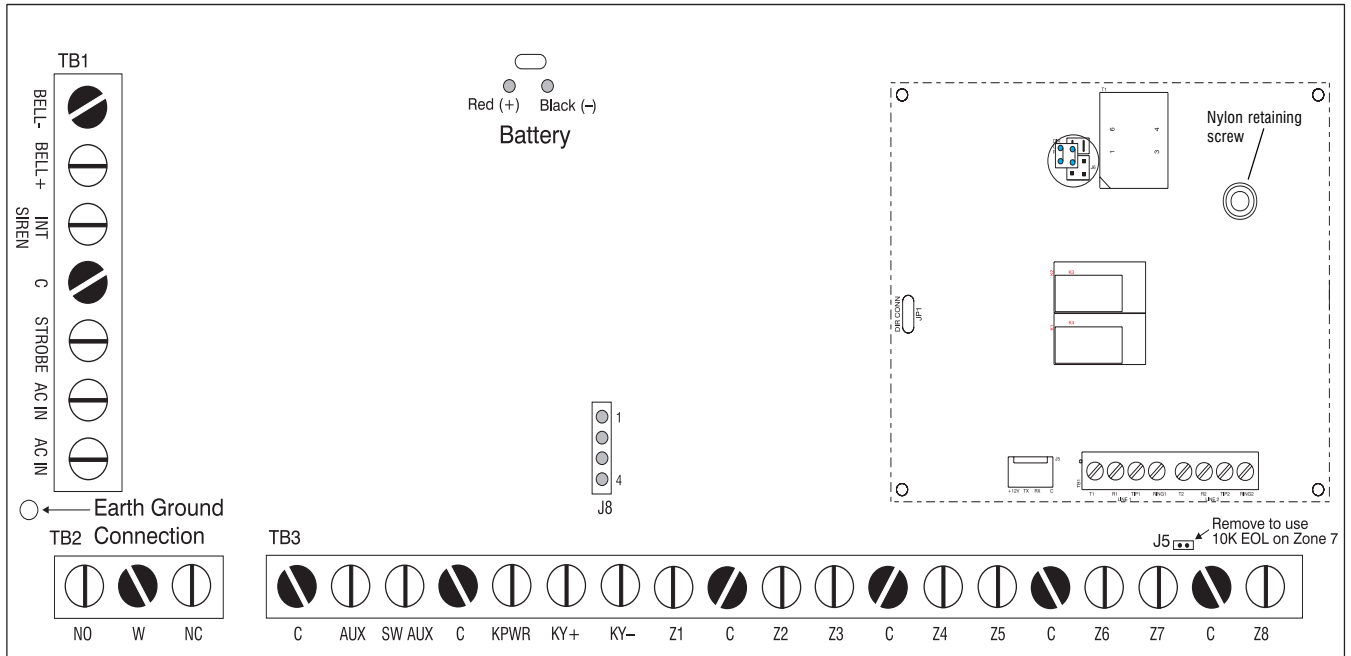

Figure 1
- Connect the earth ground wire (green with yellow stripe) to the board (see Figure 1) and cabinet. The earth ground wire will connect to the upper hinge when using the large enclosure and to the lower hinge on the small enclosure.
The Sierra S5832SG receives its power from a 16.5 VAC 40 VA transformer. Connect the transformer to the AC In terminals on TB1 of the PCB (see Figure 1), using 18 AWG (1.02 mm) wire. (Some systems may have the transformer and mains fuse block installed and pre-wired from the factory.)